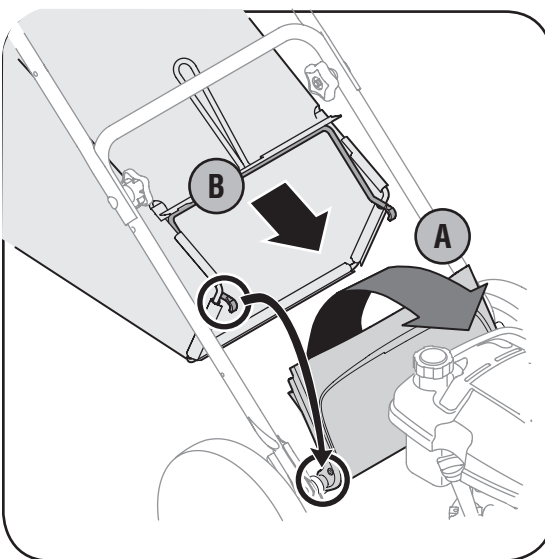

Figure 8
- a. Lift the rear discharge door on the mower, and place the grass catcher on the pivot rod. Let go of discharge door so that it rests on the grass catcher. See Figure 8.
- a. Lift rear discharge door on the mower as shown in Figure 8. Lift grass catcher up and out, off of the pivot rod. Release rear discharge door to allow it to close rear opening of mower.